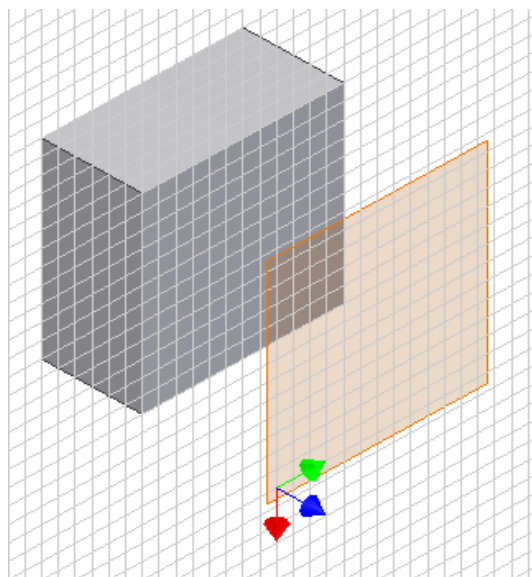

Figure Step 6
**Step 6** Start a new sketch on the work plane as shown in Figure Step 6.